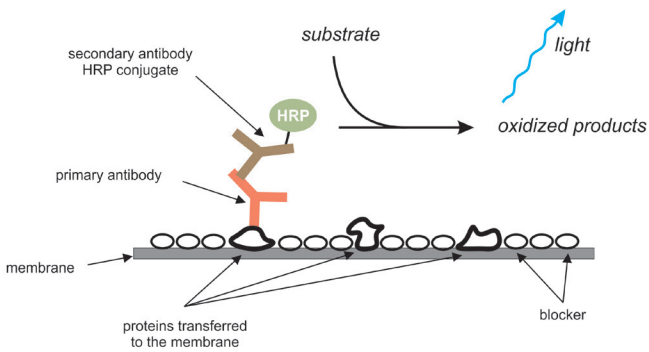

Figure 1. The principle of chemiluminescent Western blotting.
Western blotting is a protein analysis tool that has become commonplace in molecular biology and protein chemistry laboratory. The principle of chemiluminescent Western blotting is shown in Figure 1. The general protocol, including the role of ProSignal Pico, can be seen on page 7. Proteins are separated by size via electrophoresis, and then transferred electrophoretically from the gel to a membrane support, usually nitrocellulose or PVDF. This membrane containing the transferred proteins is commonly referred to as a blot. The location of a protein of interest is detected on the blot by applying the primary antibody, which binds to the protein. The primary antibody bound to the blot is then visualized using a secondary antibody that binds to the primary antibody. The secondary antibody is labeled in some way to make it detectable, such as with a radioactive isotope or an enzyme that can be detected by its activity.
Since 1988, enhanced chemiluminescence or ECL (1) has become one of the most common detection methods in Western blotting (2). In this method, the secondary antibody is conjugated to the enzyme Horseradish peroxidase (1,2). Once bound to the membrane, the secondary antibody is detected by incubating the blot with a solution containing an HRP substrate that generates a light-emitting product after reaction with HRP (Figures 1, 2). The chemiluminescent signal can be detected by exposing the blot to X-ray film, or by imaging with a CCD camera.